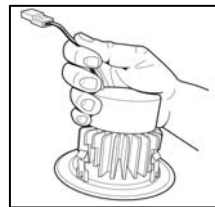

Figura 2
**NE LAISSEZ PAS LE MODULE PENDRE SANS SUPPORT PAR LES CONNECTEURS ORANGES.** (Figura 2)